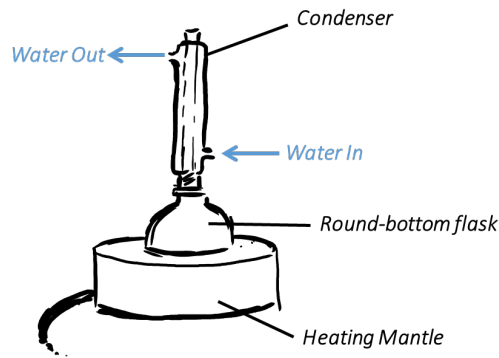

Figure 1
5. **Figure 1.** Note that the round-bottom flask should be wrapped in glass wool to minimize heat dissipation into the air.